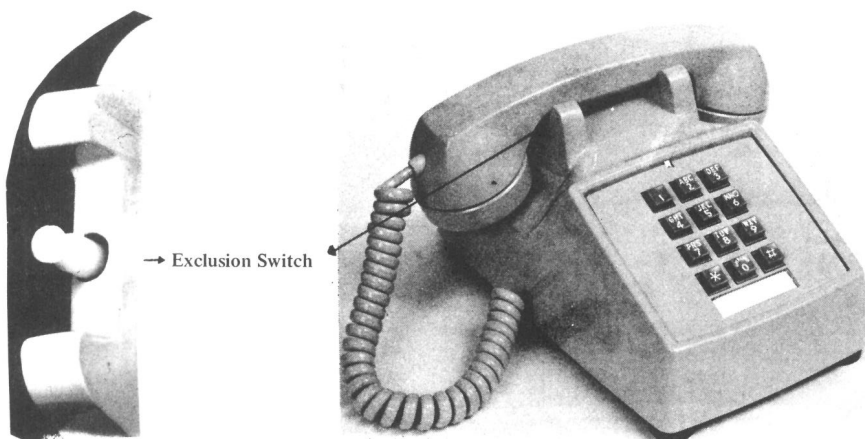

FIGURE 1. The Left Hand Cradle Plunger Serves as the Exclusion Switch
- 1.01 This practice provides the connections for the 2502**(BA)30M telephone set. This set is a desk type, touch-tone instrument equipped with an exclusion switch. See Figure 1.